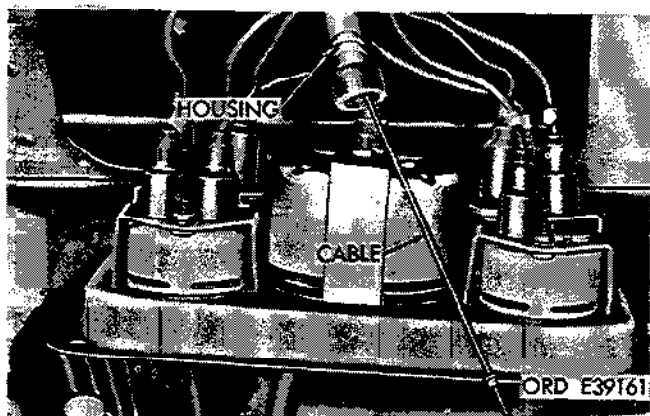

Figure 2-271. Pull speedometer cable from housing.
(1) Remove instrument cluster (para 2-101) and disconnect speedometer cable from speedometer by loosening nut securing housing to speedometer.
(2) Pull cable from housing (fig. 2-271).